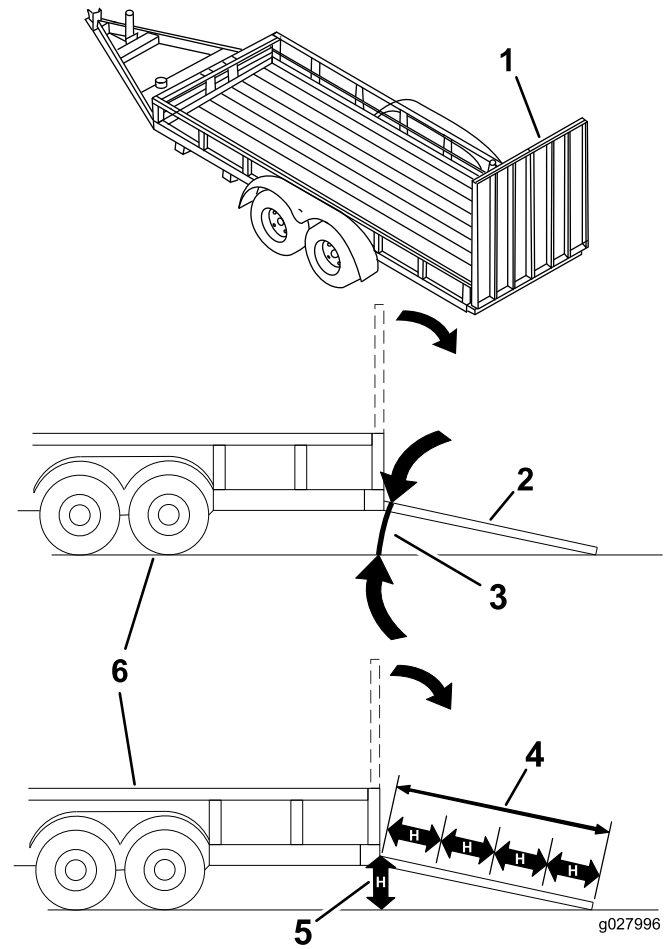

Figure 29
Loading a machine onto a trailer or truck increases the possibility of tip-over and could cause serious injury or death (Figure 29).
3. Lower the ramp, ensuring that the angle between the ramp and the ground does not exceed 15 degrees (Figure 29).